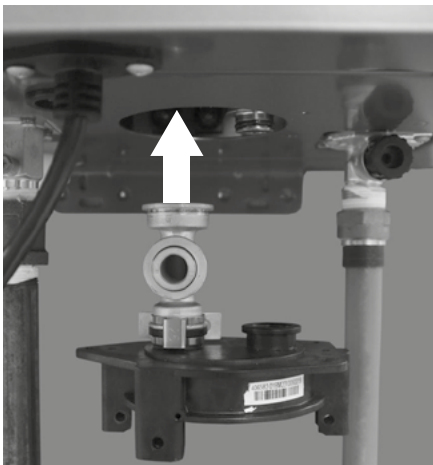

Figure 9 - Orient cartridge manifold and outlet tee
- 21 Orient cartridge manifold and outlet tee assembly as shown in Figure 9. Install assembly from under the water heater cabinet. Connect the outlet tee to the burner inlet tube and secure with the spring clip (size 30) previously removed in **Step 13**. This will help keep the manifold in place when installing screws.